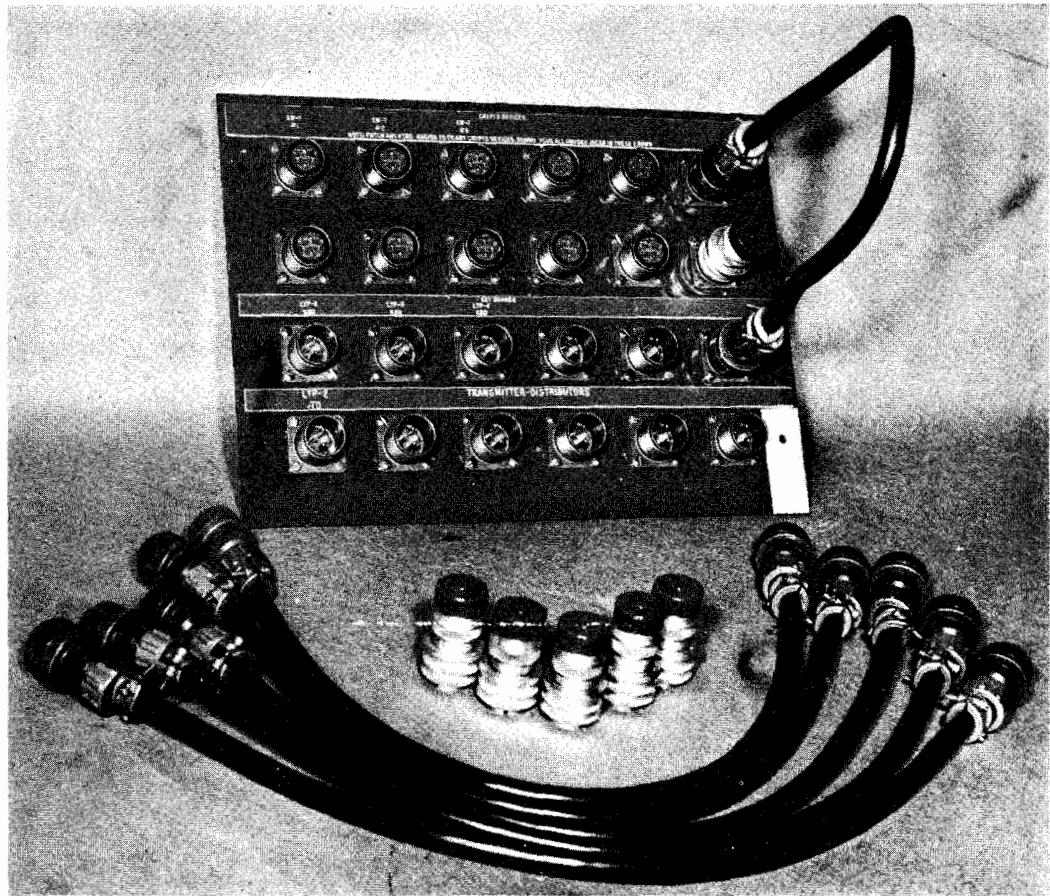

Figure 2.4 SB-3176/UGQ Patch Panel Showing Name Plates Installed
2. Since the fabrication of the mounting frame is the responsibility of the installing activity, only an outline sketch is provided in the installing drawing, however, the activity can choose other configurations to fit the situation. (See Figures 2.4, 2.5 and 2.6.)